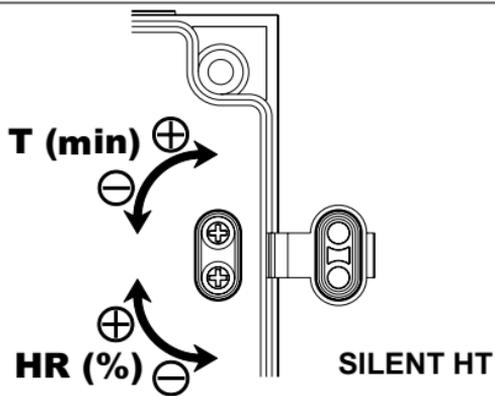

Fig.10
The desired humidity level and time delay are set by means of adjuster positioned on the printed circuit board (fig.10) and accessible once the grille (1) is removed.